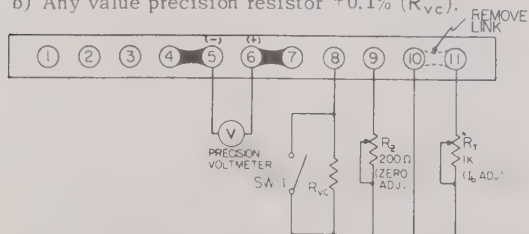

FIG. 3-4 PROGRAMMING RATIO CALIBRATION, METHOD #3
- a) Connect calibration set-up as shown in Fig. 3-4.